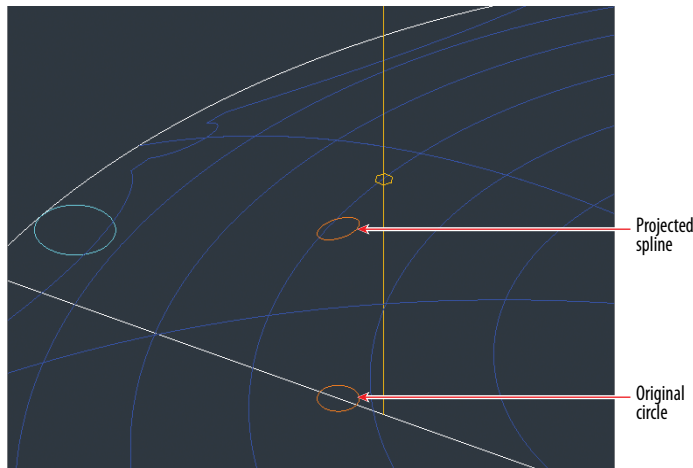

FIGURE 17.11 Projecting one mast void upward onto the dome membrane's surface
12. Select the Project To UCS tool in the Project Geometry panel, select the small orange circle, and press Enter. Select the blue dome. A new projected spline appears on the dome surface (see Figure 17.11).